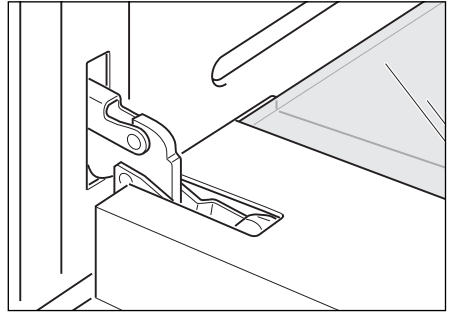

Fig.57a
- Open the door to its full extent (Fig. 57a).